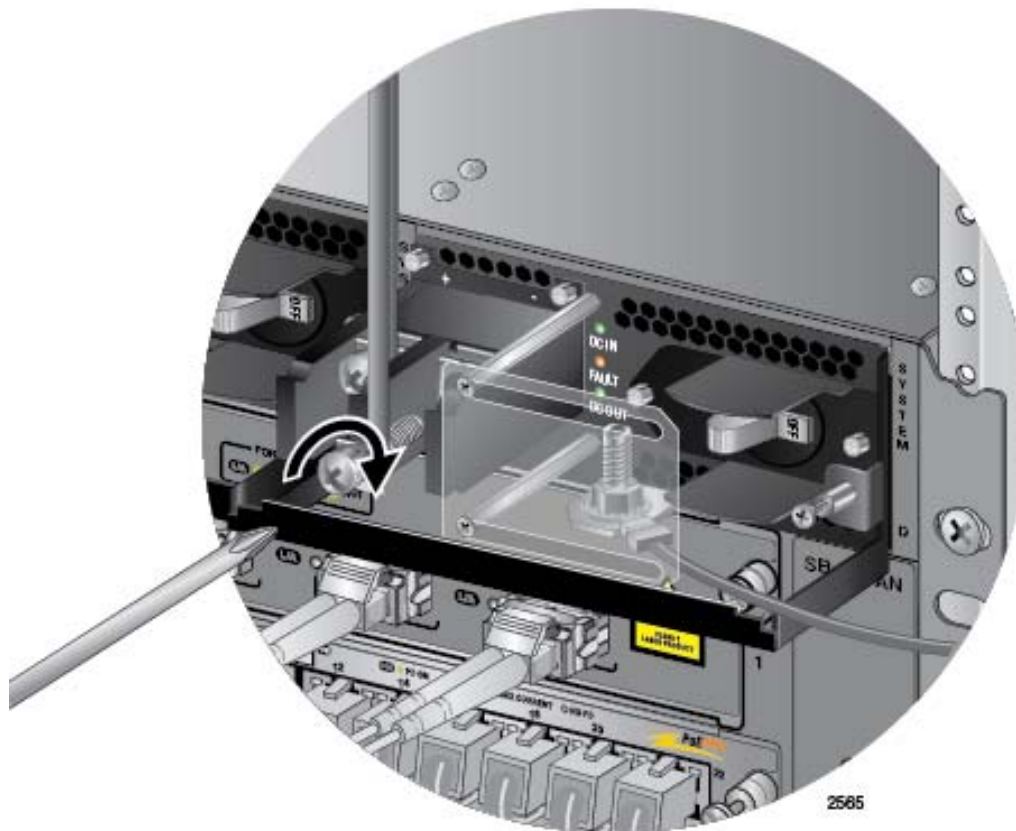

Figure 151. Connecting the Negative Lead Wire
6. Wrap the negative lead wire clockwise around the remaining terminal screw and secure the screw and wire to the negative terminal connection on the terminal block with a #3 Phillips-head screwdriver, as shown in Figure 151 on page 216. The negative terminal is on the right.